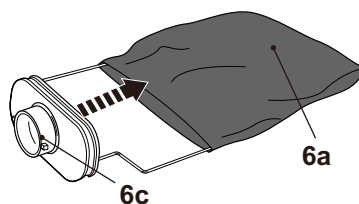

Fig. 10
- > Remove the dust bag (6a) from the connector (6c) (Fig. 10) by gently pulling on the elasticated collar and empty dust into a suitable rubbish bag.